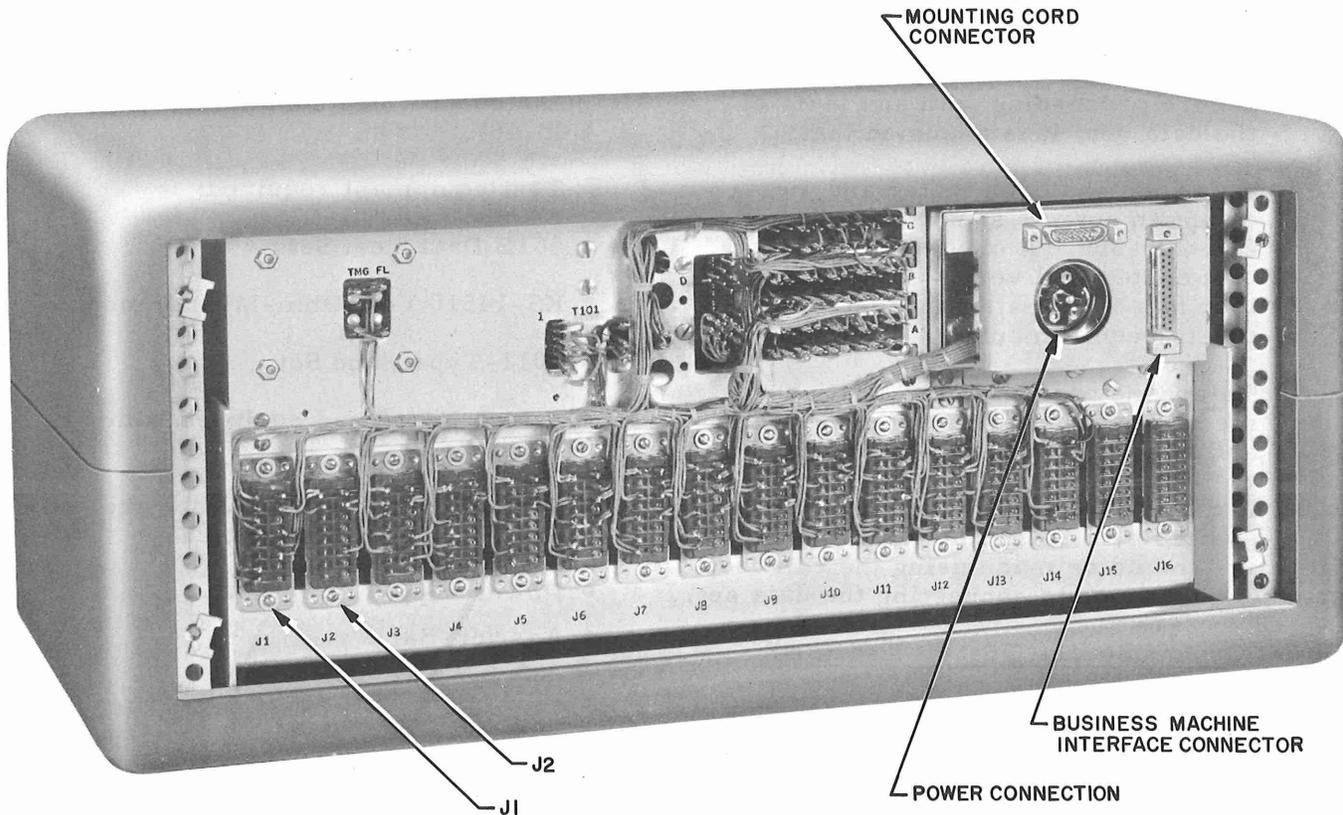

Fig. 1 - Data Set 402B, Rear View, Cover Removed
- (1) Connect data set power cord to a 105- to 120-volt ac outlet.
- (2) Remove rear panel of data set.
- (3) Using KS-14510 meter, measure ± 2 volts between terminal 16 (ground) and terminal 15 (+18 volts) of J1 (Fig. 1).
- (4) Measure -18 ± 2 volts between terminal 16 (ground) and terminal 8 (-18 volts) of J1.
- (1) Move A TEST switch to position 12.
- (2) Using alligator clip, test lead. Connect terminal 5 of J1 to terminal 7 of J2 at rear of data set (Fig. 1).
- (3) Move key on 1011 hand set to MON position. A 2025-cycle tone (B channel) should be heard by test center and in 1011 hand set.
- (4) Disconnect 1011 hand set to permit test center to measure frequency and level.
- (5) After a prearranged time interval, move A TEST switch to position 13. A 1017-cycle tone (A channel) should be heard and measured by the test center.
- (6) After the same interval move A TEST switch to position 14. A 1785-cycle tone (A and B channels) should be heard and measured by the test center.
- (7) Remove test lead from terminal 5 of J1 and 7 of J2.
- (8) Move 1011 hand set key to TALK.
- (9) Verify with test center that the three answer-back frequencies were correct.
- (10) Disconnect all test equipment.